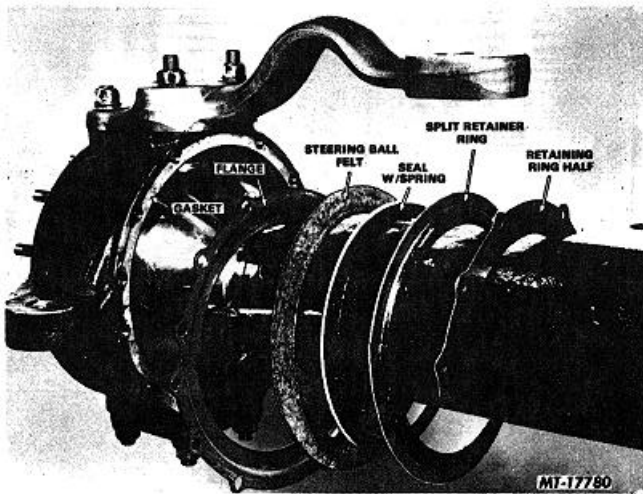

Fig. 21 Trunnion Housing Seals and Retainers
5. Install gasket, flange, steering ball felt, seal with spring, split retainer ring and retaining ring halves on rear of trunnion housing. See Fig. 21 for correct order of component installation.